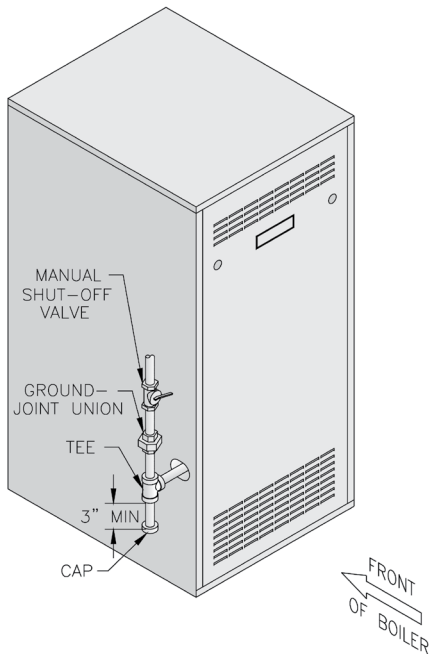

Figure 25: Recommended Gas Piping
3. Install sediment trap, ground-joint union and manual shut-off valve upstream of boiler gas valve and outside jacket. See Figure 25.